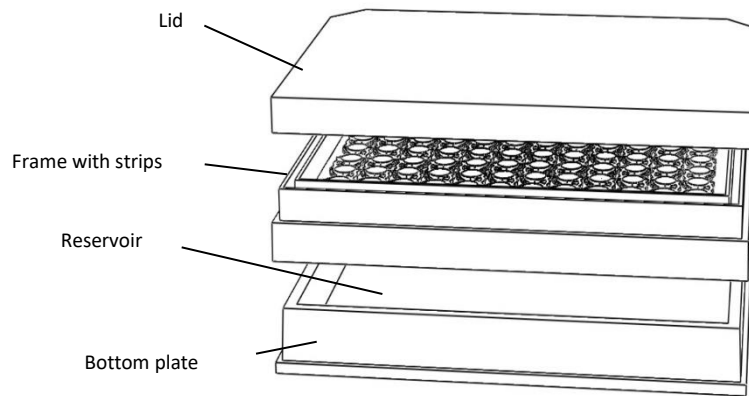

Figure 1: Components of the Akura™ PLUS Plate.
The complete Akura™ PLUS Plate assembly consists of the following components (Fig. 1):
6. While pad is soaking, open the Akura™ PLUS Plate package and remove the frame (Fig. 1).
7. Place the soaked humidifier pad in the bottom plate (Fig. 1) of the Akura™ PLUS Plate.
2. Place the lid (Fig. 1) on the Akura™ PLUS Plate.
1. Place the frame with stripes (Fig. 1) of the Akura™ PLUS Plate onto the Akura™ 96 Plate by positioning the three pins into the corresponding holes on the top surface of the Akura™ 96 Plate (Fig. 3). The drops under the Akura™ PLUS Plate will then be perfectly aligned with the wells of the Akura™ 96 Plate underneath.